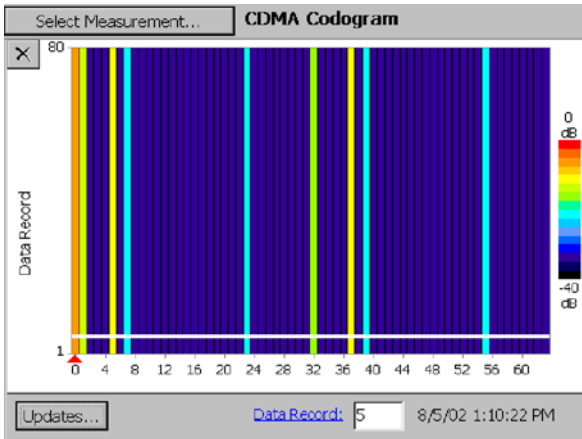

Figure 3-56: cdmaOne Codogram display
5. Tap **Codogram**. See Figure 3-56.